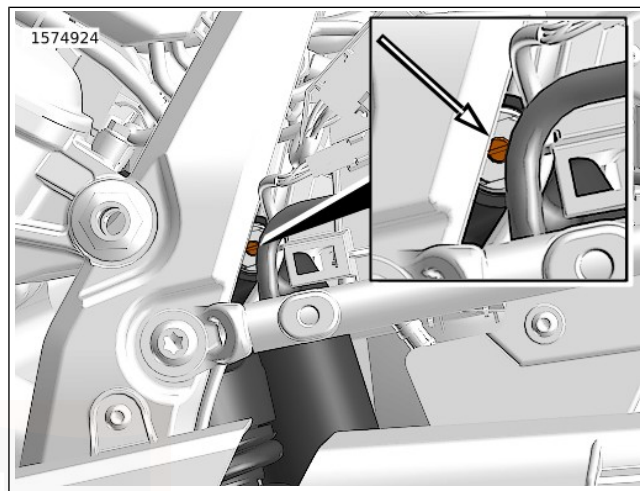

Figure 20. Compression Adjuster
2. See Figure 20. Use a flat blade screwdriver to turn compression adjuster clockwise in the H (hard) direction until it stops. This is the maximum compression damping setting.